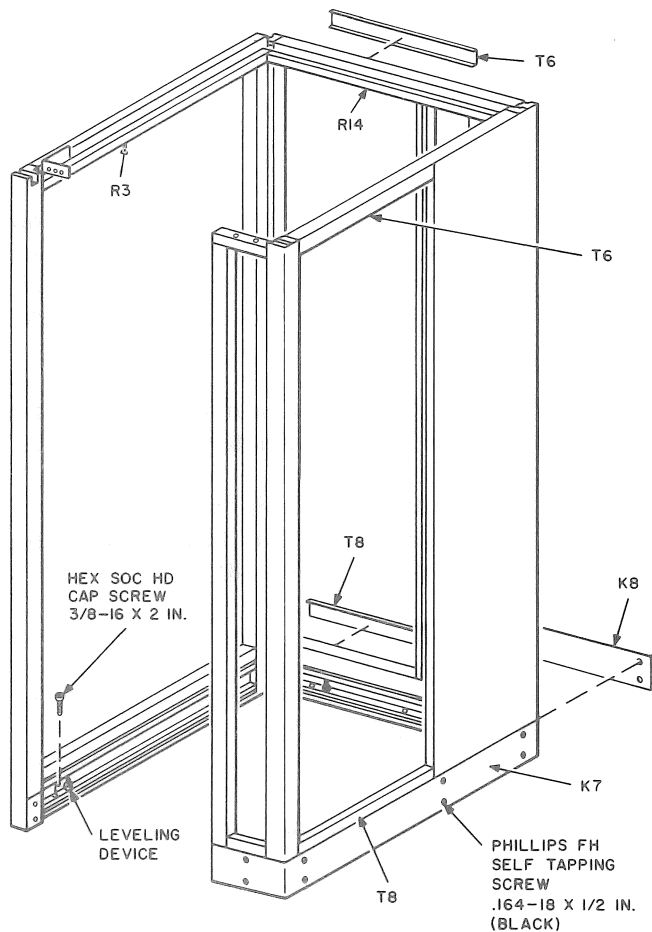

Fig. 14—Partial View of Booth
- (1) Remove and retain the following items from the right wall of previous booth (Fig. 14):
(1) Remove and discard K8 kickplate, T6 trim strip, and T8 trim strip from outside-rear wall of both booths (Fig. 14).
- (2) Place the second List 1 booth behind the first booth and perform operations outlined in 3.06 through 3.10.
- (3) Remove R14 retaining strip from top rear-inside wall of each booth (Fig. 14).
- (4) Tie booth walls together at the top using two 1/4-20 by 1-1/2 hex socket head cap screws and at the bottom using two 1/4-20 by 3/4 hex socket head cap screws. Screws are not furnished; they must be ordered separately.
- (5) Install R14 retaining strips removed in (3) in their original positions.
- (6) Repeat 3.16.